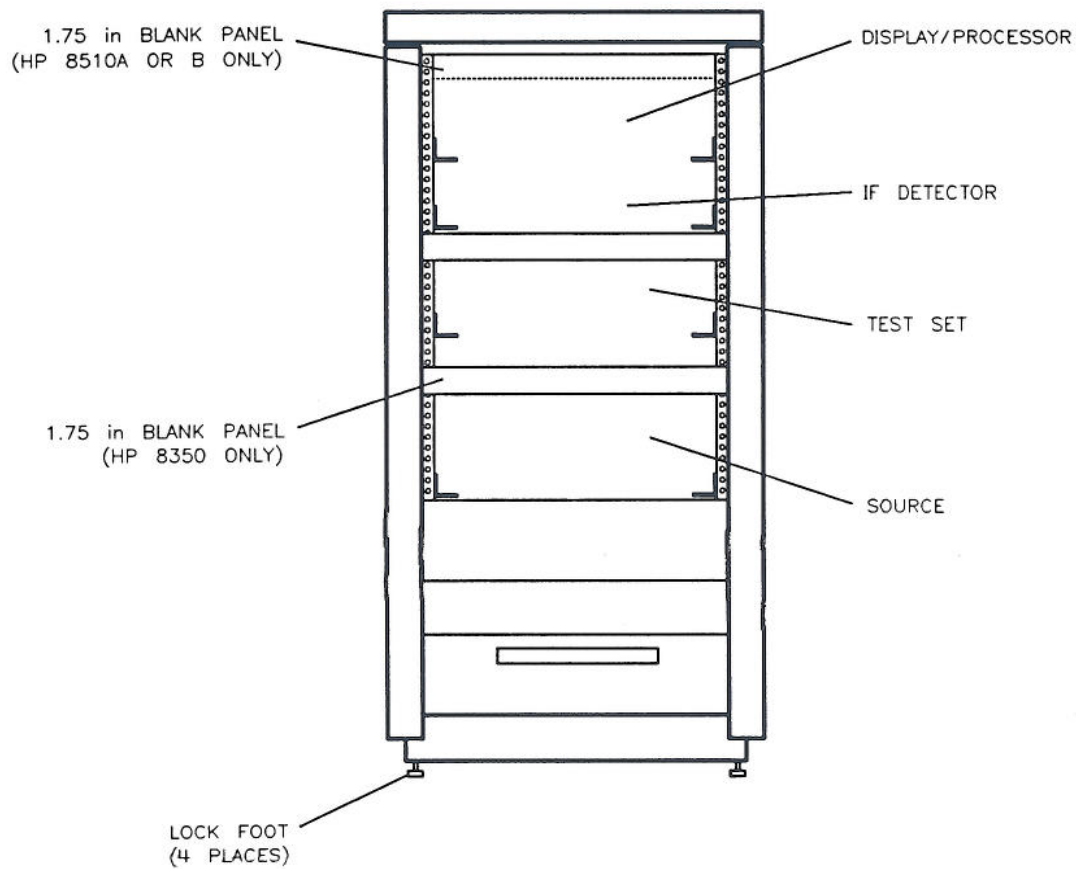

Figure 2-1. Installing Instruments
The instrument support rails and the blank front panels of the system rack are shipped configured for an HP 8510C network analyzer system using an HP 8340, 8341, or 836xx synthesized sweeper as the source (see Figure 2-1).
1. To prevent the rack cabinet from rolling, fully extend the four lock feet (see Figure 2-1).
5. Install the following instruments, beginning at the *top* of the rack (see Figure 2-1):